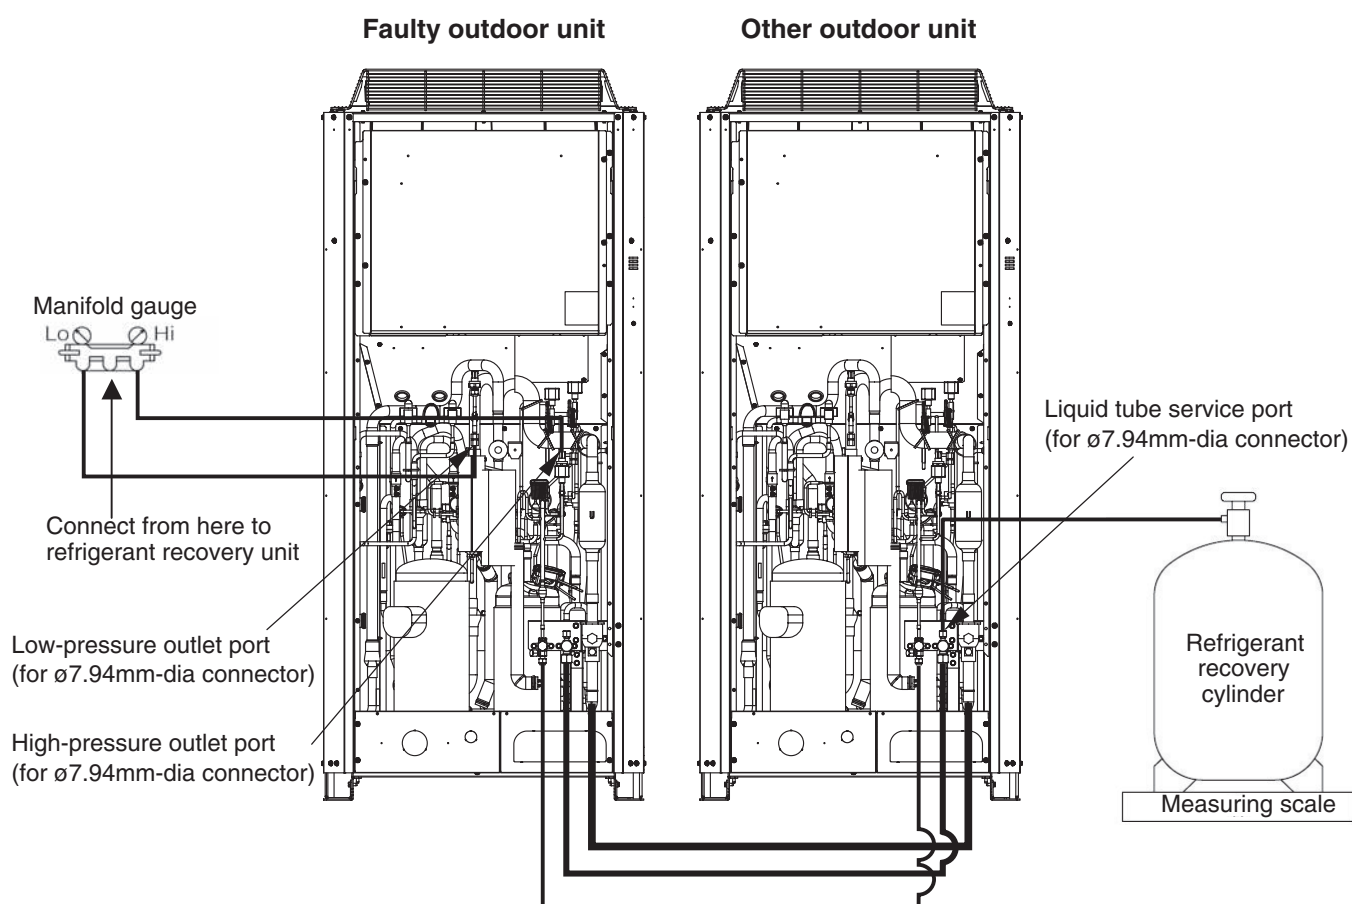

Fig. 14
(1) Refer to “3. Backup Operation” and perform backup operation.
(2) Connect the manifold gauge valves at the Lo side to the low-pressure outlet port of the outdoor unit to be repaired. Also connect the refrigerant recovery cylinder to any one of the normal outdoor units at the liquid line service port (Schrader-type push-to-release valve). Perform the connection work quickly so that no air is allowed to enter. (Fig. 14)
- (1) Refer to "3. Backup Operation" and perform backup operation.
- (2) Connect the manifold gauge valves at the Lo side to the low-pressure outlet port of the outdoor unit to be repaired. Also connect the refrigerant recovery cylinder to any one of the normal outdoor units at the liquid line service port (Schrader-type push-to-release valve). Perform the connection work quickly so that no air is allowed to enter. (Fig. 14)